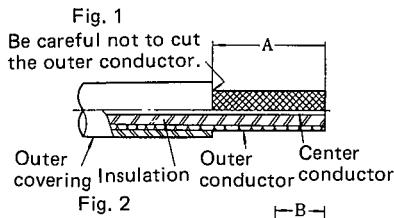

Fig. 2
6. In MSS-LP-1.5, after everything has been done up to Fig. 2, insert into the plug and then perform 4 and 5.